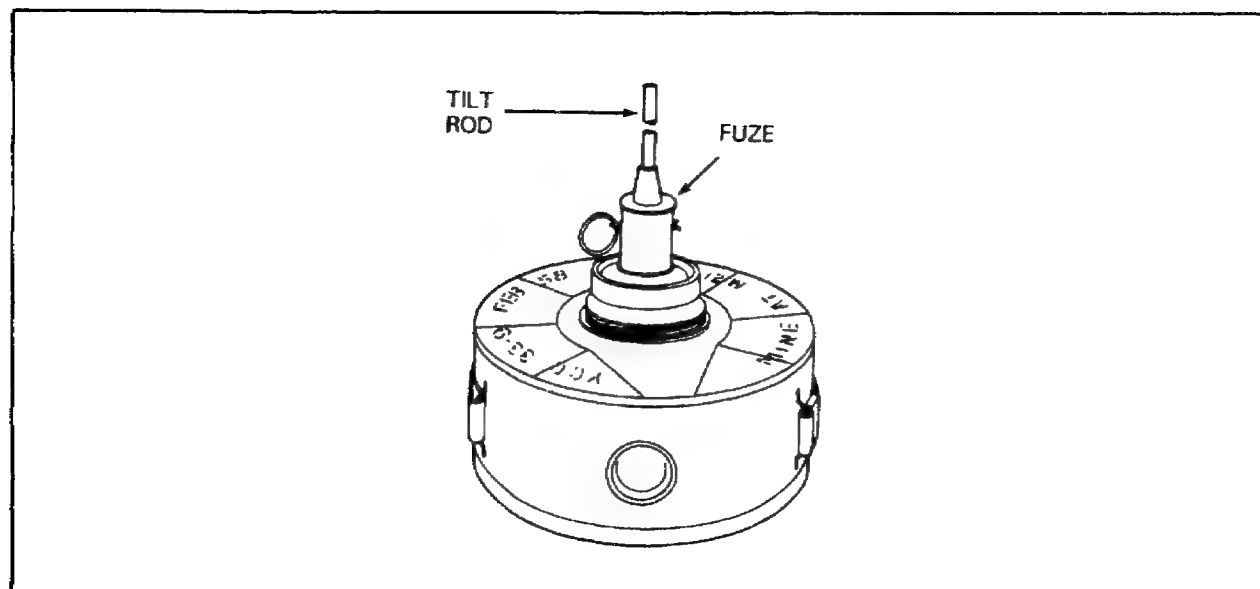

Figure 57. Mine, Antitank, HE, M21.
**Mine, Antitank, HE, M21.** The M21 antitank mine (Figure 57) is another heavy metallic mine. It is designed to penetrate 3 inches of armor plate from a distance of 21 inches. It also functions as a blast type of mine. It has a cylindrical steel body 9 inches in diameter and 5 inches high, and it contains 11 pounds of high-explosive. The fuze is actuated by a slight horizontal push at the top of the tilt rod or by a downward force of 290 pounds.